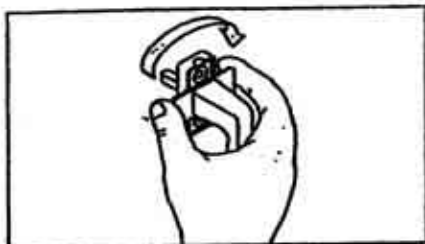

Figure 2-3. How to uncover the screw holes
- 2.1 Pull the screw cover of the SA- FE-Handle base towards you and rotate it 90° to uncover the screw holes. See Fig. 2-3.